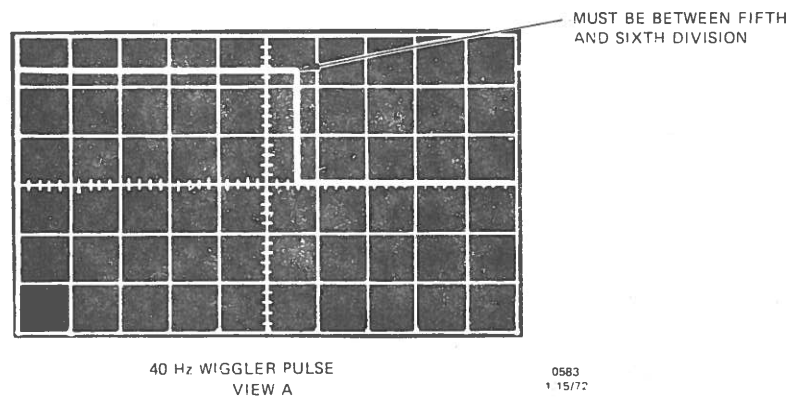

Figure 6-25. 40-Hz Wiggler Pulse
2. Observe negative-going transition of 40-Hz Wiggler Pulse. It should occur at 5 to 6 divisions after start of sweep. See figure 6-25.